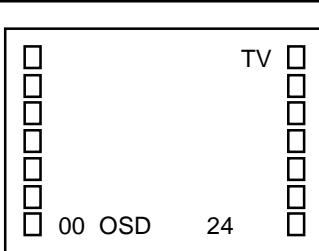

Fig. 1-1
1. In the condition of NO indication on the screen. Press the VOL. DOWN button on the set and the Channel button (9) on the remote control for more than 1 second to appear the adjustment mode on the screen as shown in Fig. 1-1.
2. Activate the adjustment mode display of Fig. 1-1 and press the channel button (01) on the remote control to select "CUT OFF".
4. Activate the adjustment mode display of Fig. 1-1 and press the channel button (10) on the remote control to select "R. DRIVE".
3. Activate the adjustment mode display of Fig. 1-1 and press the channel button (03) on the remote control to select "H.PHAS".
3. Activate the adjustment mode display of **Fig. 1-1** and press the channel button **(07)** on the remote control to select "V.SIZE".